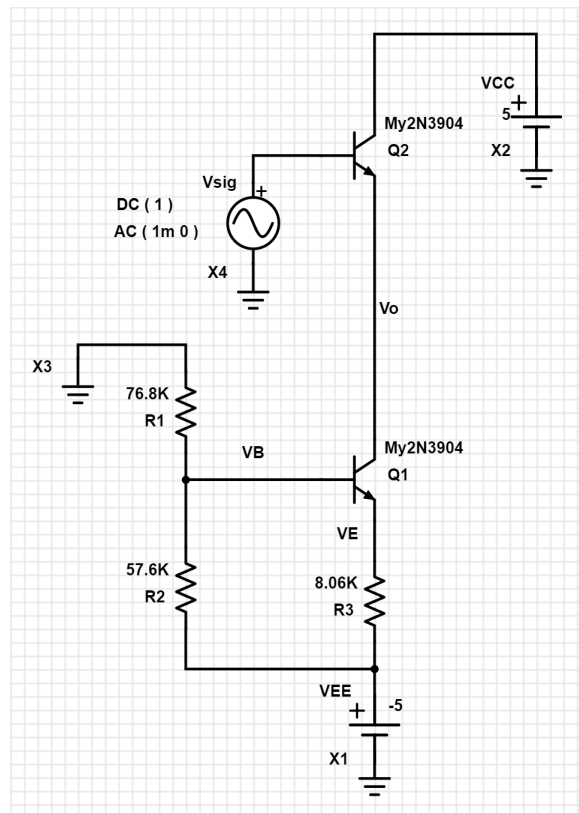
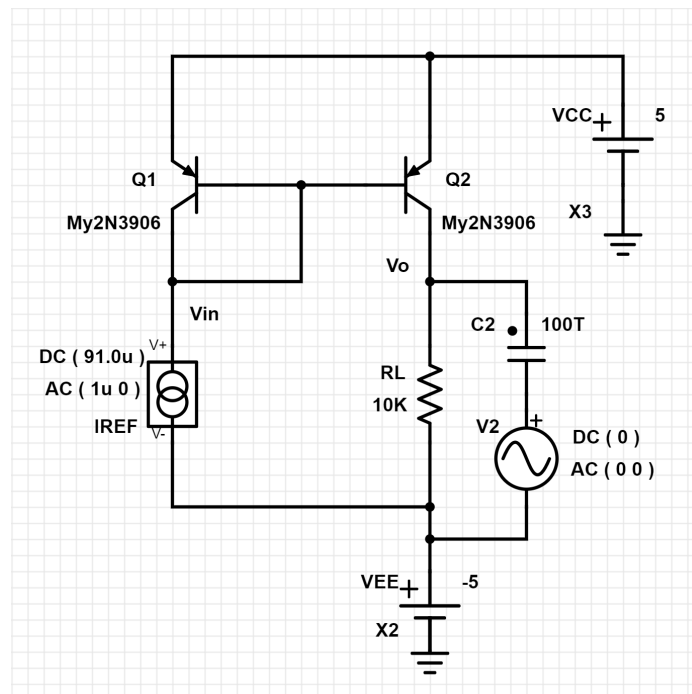
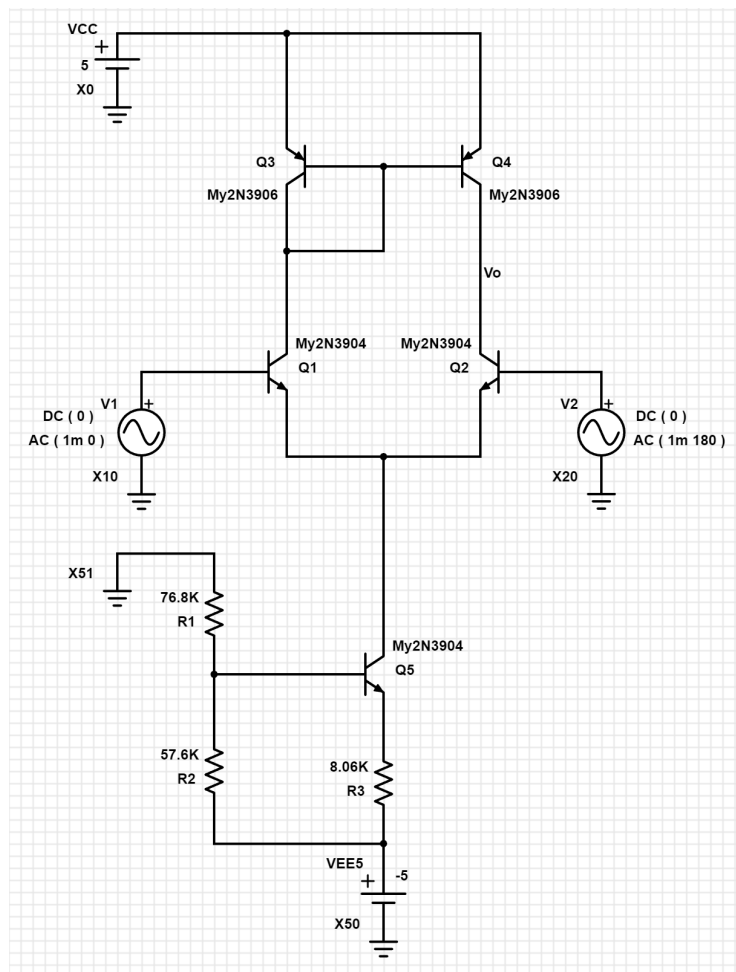

Fig. 1 Schematic diagram of the common-collector (CC) amplifier
Fig. 3 Schematic diagram of the current mirror for the AC analysis
Fig. 4 Schematic diagram of the differential amplifier with a CM load for differential-mode analysis
- 1.1 In PartSim (LTspice or PSpice), construct the CC amplifier, as shown in Fig. 1, using an NPN-BJT 2N3904 and the current sink characterized in Fig. 3. Here, V_{sig} provides the required DC bias for Q_2 and the AC signal for the CC amplifier.
- 1.4 Based on Fig. 1, construct the measurement setup for the common-collector (CC) amplifier. Use $V_+ = 5\text{V}$ for V_{CC} , $V_- = -5\text{V}$ for V_{EE} , and Wavegen 1 (W1) for V_{sig} . Connect GNDV+, GNDV-, and GNDW1 to a common ground line.
- 2.4 As shown in Fig. 3, construct the circuit in PartSim (LTspice or PSpice). Here C_2 is a dummy bypass capacitor with 100 TF, and V_2 is a dummy AC voltage source as the port 2 stimulus used in the AC analysis.
- 3.1 In **PartSim** (**LTspice** or **PSpice**), construct a differential amplifier, as shown in Fig. 4, using the current mirror (CM) load characterized in Part 1.
- 3.2 **Frequency Response:** Set the DC values of V_1 and $V_2 = 0$ V and their AC amplitude 1 mV. For the differential-mode signal, set the phases of the AC signal V_1 and V_2 to be 0° and 180° , respectively, as shown in Fig. 4. In this setting, the differential-mode signal $v_{id} = V_1 - V_2 = 1$ mV $- (-1$ mV) = 2 mV. Conduct AC analysis for V_o in DEC with **Start Frequency = 100 Hz**, **Stop Frequency = 100 kHz**, and **Total Points Per Decade = 101**. Choose **REAL** for magnitude unit and **degree (DEG)** for phase unit. **Record the measured $|V_o|$ and $\angle V_o$ in the sheet “Step 3.2” of the Excel file “Lab 3 – Multi-Stage Amplifier.xlsx”.**
- 3.4 Based on Fig. 4, construct the measurement setup for the differential amplifier with a current mirror load. **Tip:** Replace the two 8.25 k Ω resistors in Lab 2 with the current mirror.
- 3.9 **Multi-stage Amplifier Gain:** Connect the output (the collector of Q_2 in Fig. 4) of the differential amplifier to the input (the base of Q_2 in Fig. 1) of the common-collector (CC) amplifier to form a multi-stage (or 2-stage) amplifier. Connect Scope Ch. 2 Positive (2+) to V_o (the emitter of Q_2 in Fig. 1). Run workspace script “Lab3_Step3.7.dwf3work” again with the same W2Offset value set in Step 3.7. Display the measurement results using the Scope function in WaveForms. Use Y Cursors to set their upper and lower peak values and the Ref function to calculate the difference. Record the measured peak-to-peak amplitudes of Scope Ch. 1 Positive (1+) and Scope Ch. 2 Positive (2+) in the sheet “Step 3.9” of the Excel file “Lab 3 – Multi-Stage Amplifier.xlsx” to calculate the differential-mode voltage gain A_{vd} in dB. Copy and paste the screenshot of the measurement results to replace the one in the sheet “Step 3.9” of the Excel file “Lab 3 – Multi-Stage Amplifier.xlsx” to support your calculation. Make sure to capture the date and time of your PC in the screenshot.